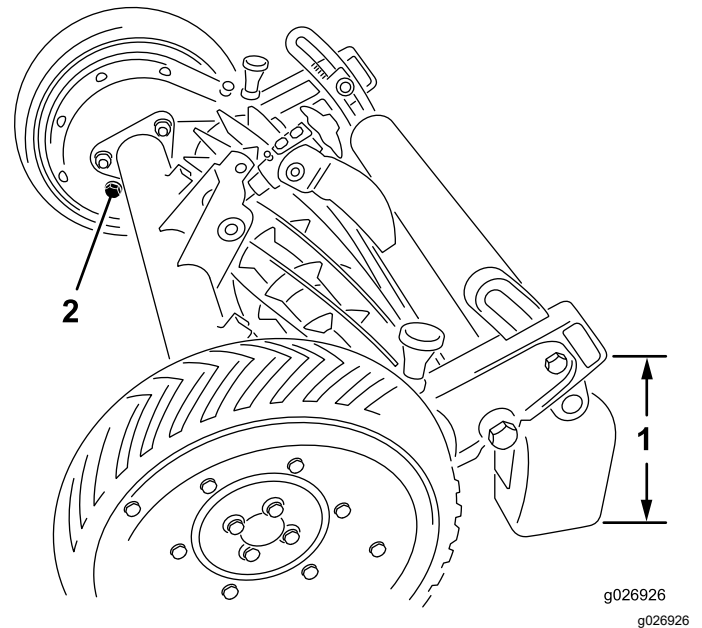

Figure 12
2. Raise and block the back of the cutting unit until there is approximately 26 cm (10-1/4 inches) between the bottom of the gear case extending behind the roller bracket and the level surface (Figure 12).
3. Remove the filler plug from inside of each gear case (Figure 12). Check the oil level in the gear case; it should be level with the bottom of the filler hole. If the oil is level with bottom of the hole, install the filler plug.